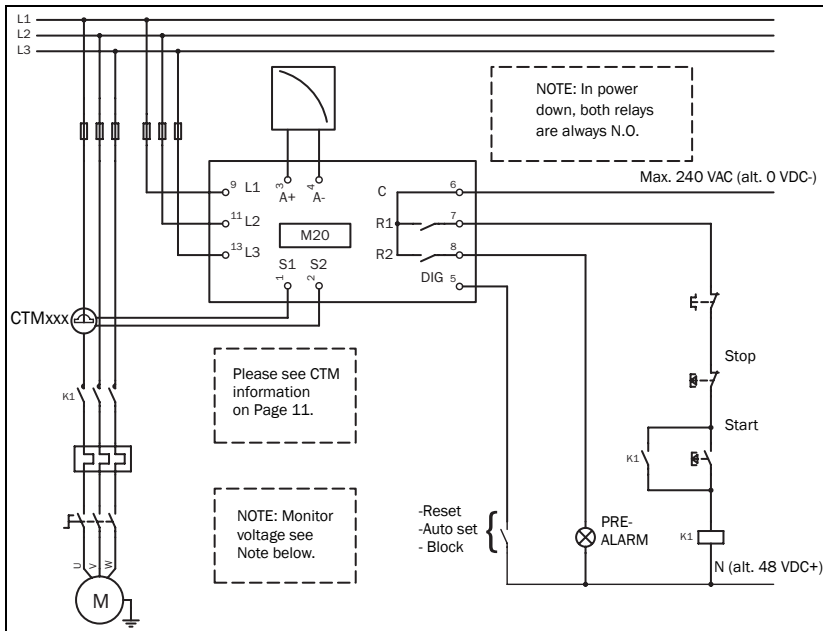
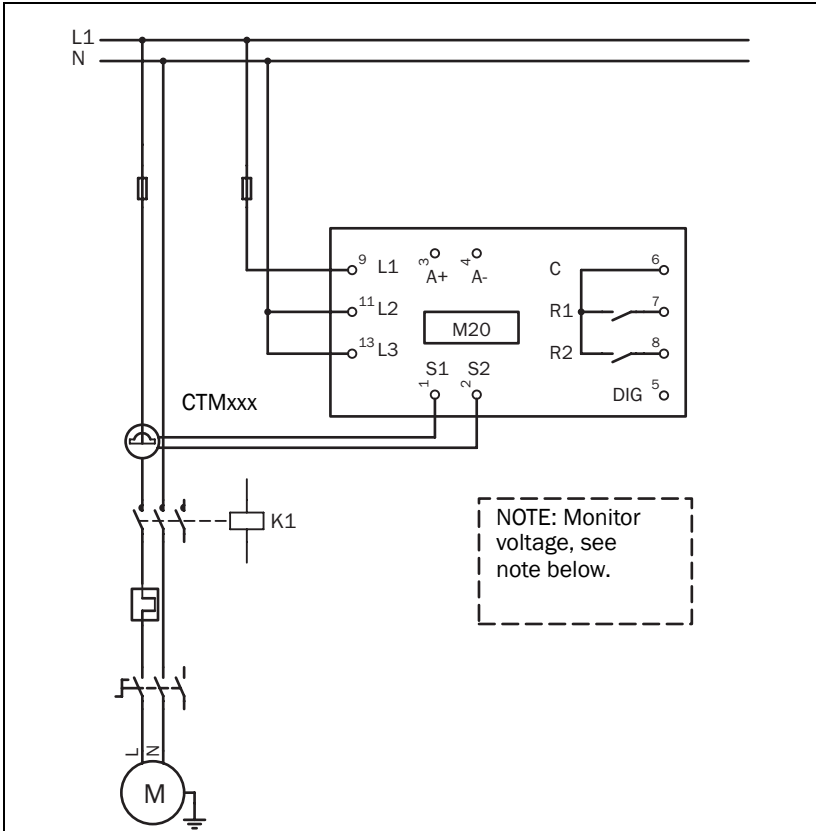

Fig. 1 Connection example
Fig. 2 Single-phase connection example.
1. Connect the Emotron M20 according to chapter 5 and Fig. 1.
The following wiring diagram provides an example of how the M20 can be connected to control the start/stop circuit of a three-phase motor, Fig. 1. Connections to a single-phase motor are described later in this manual (Fig. 2) as are the programming changes necessary for such applications. The default setting for the M20 is 3-phase.
1. The current transformer CTMxxx must be placed in the same phase that is connected to terminal 9, phase L1, see Fig. 1. Failure to follow this requirement will result in the monitor failing to function.
2. For single-phase connection see fig 2.
**Note: The current transformer (CTMxxx) must be placed in the same phase that is connected to terminal 9, phase L1, see Fig. 1.**
**NOTE: If the START/STOP is connected as per Fig. 1, it is recommended that terminals 6 and 7 be bypassed during programming. After the programming is completed the bypass must be taken out. Make sure that the monitor voltage range e.g. 3x380-500 VAC matches the connected motor/line voltage, e.g. 3x 400 V.**
This wiring example shows the connections required for single-phase applications. Refer to Fig. 1 for the remaining wiring.
**NOTE: In Fig. 2 make sure that the monitor voltage range e.g. 1x100-240 VAC matches the connected motor/“line - neutral” voltage, e.g. 1x 230 V.**
The digital input uses terminals 5 (DIG) and 6 (C - reference). Either a VAC or a VDC signal may be used. Connect + to terminal 5 (DIG) and - to terminal 6 for VDC signal. Please note the polarity when DC voltage is used. See also Fig1 and terminal 6: Max. 240 VAC (or 0 VDC-) and on terminal 5: N (or 48 VDC+). See also chapter 9, Advanced Features.